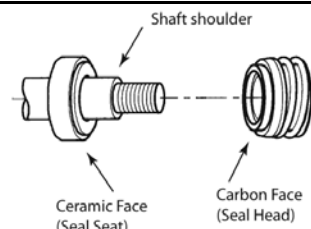

Figure 2
Refer to Figures 2 and 3.
IMPORTANT: Be sure that shaft shoulder does not damage polished face (see figure 2).
5. Wet the inside rubber portion of new seal head with a light coating of soapy water. Slide head onto motor shaft with sealing surface facing seal seat (see figure 2).